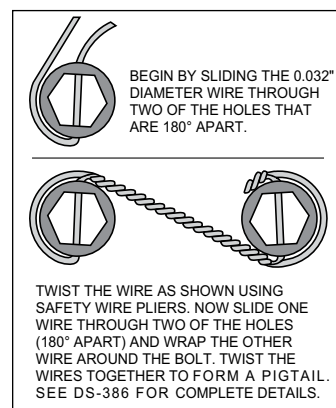

Figure 2. Safety Wire Diagram
STEP 3 Safety wire bolts (6) using standard 0.032 inch diameter stainless steel safety wire as shown in Figure 2. Please refer to Wilwood's data sheet DS-386 (available at www.wilwood.com/Pdf/DataSheets/ds386.pdf) for complete safety wire installation instructions.